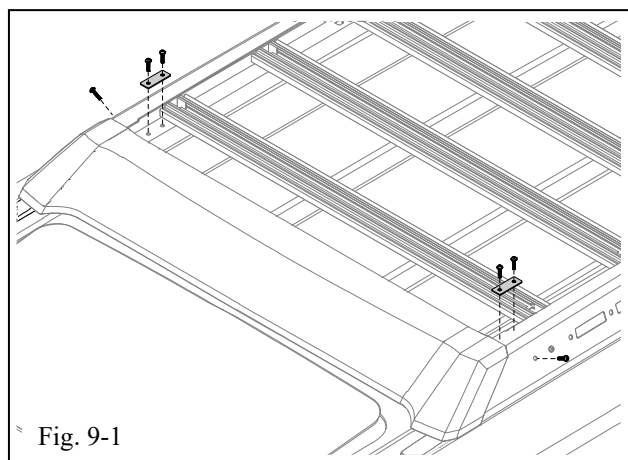

Fig. 9-1
- (a) Use a torx wrench to install a bolt on each side where shown. Then install a washer plate and two bolts in each location shown. Do not fully tighten the bolts yet. (Fig. 9-1).